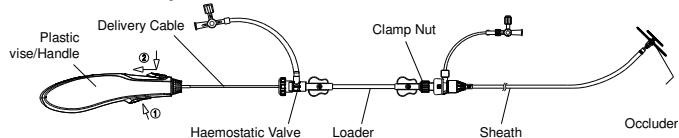

Figure 9. Illustration of releasing the occluder
- Hold the sheath to touch the hub of the occluder, and then pull back the cable gently until it separates from the occluder. Finally remove the delivery cable and sheath from the patient (Refer to Figure 9).